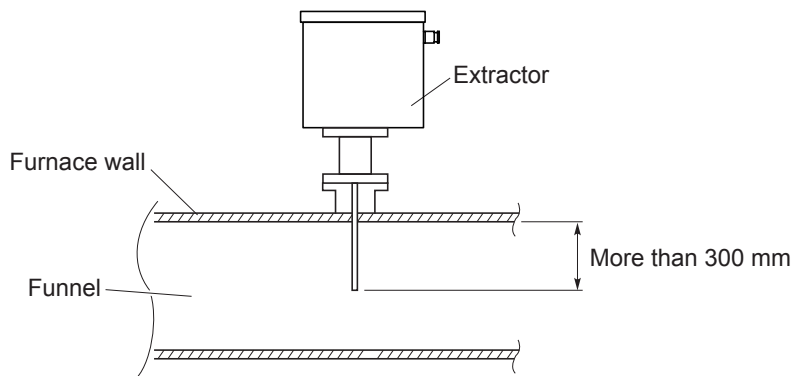

Fig. 5-2 Position of extractor
- (3) When mounting the extractor, the tip of it should be at the center of funnel (more than 300mm apart from furnace wall to prevent leak air from being sucked into the extractor) (Fig. 5-2).